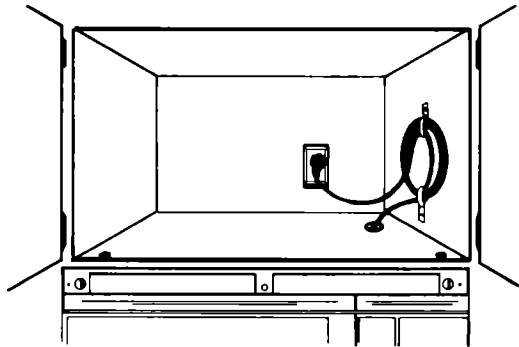

Figure 27
7. Secure excess power cord to back or side of cabinet with tie wraps and #8 x 3/8" hex head screws. (See figure 27)